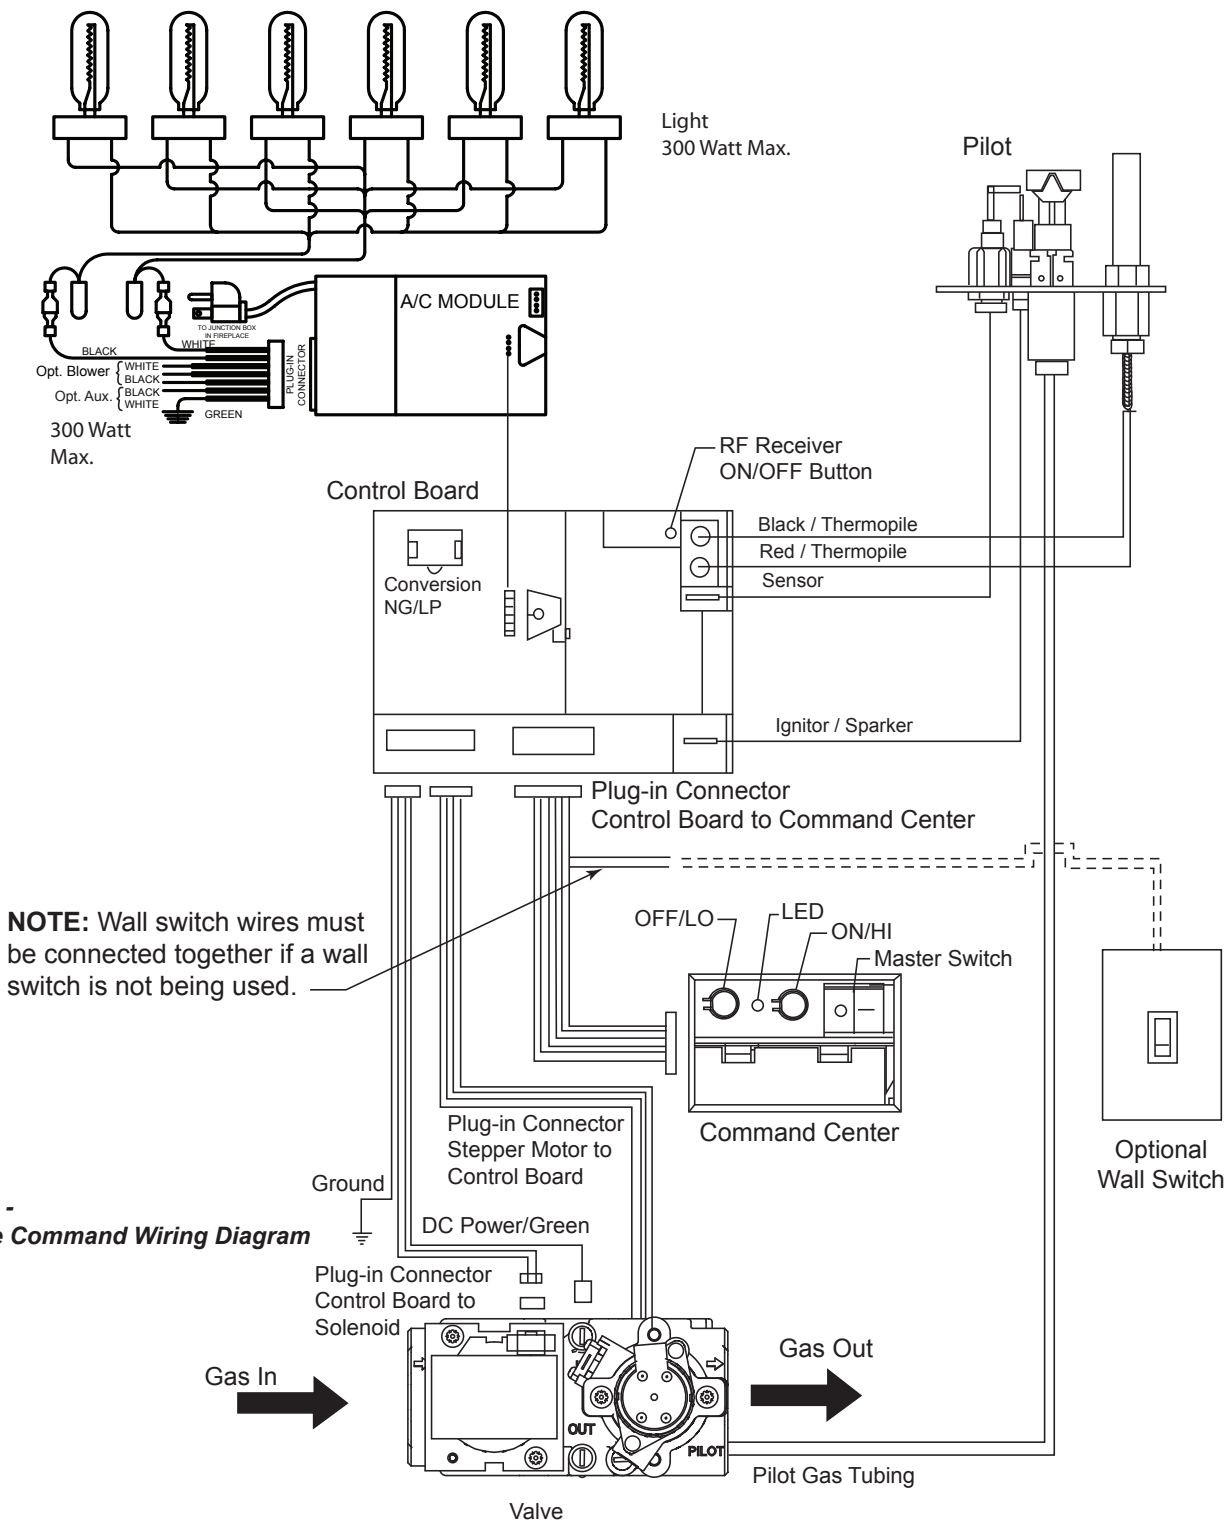

Figure 35 - Signature Command Wiring Diagram
The wall switch wire connection is located off the 2 ft. wire harness from the control box to the command center. *Figure 35*. The connection is labeled “Wall Switch”. Unplug the male and female connectors and connect the two (2) low voltage wires provided. Run wire to desired location on wall. Up to 50 ft. of 18 ga. wire may be used if necessary. Attach wires to wall switch. Mount the wall switch in to junction box and screw on cover.